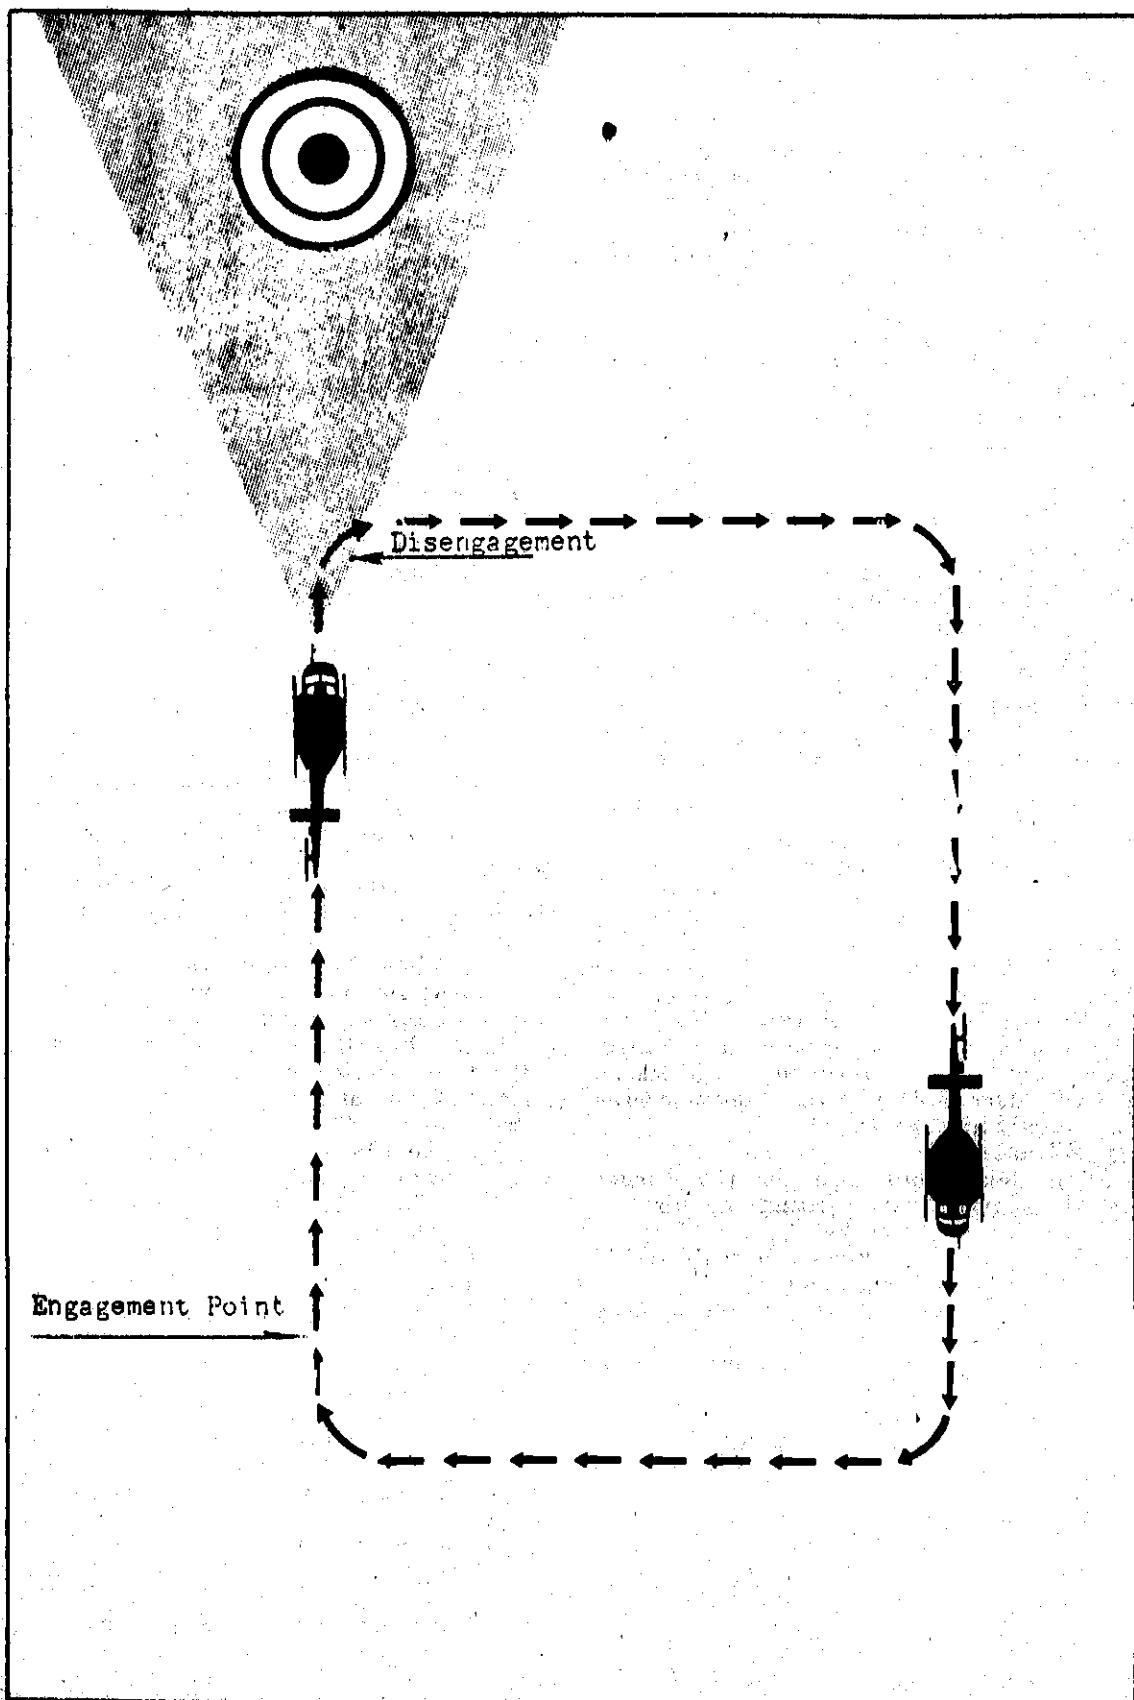

Figure 29-1. Racetrack Pattern.
c. Racetrack Pattern. The racetrack pattern (Figure 29-1) is the basic attack pattern from which the others are derived. This pattern may be used on any direct fire support mission or may be modified as the situation dictates. Integrated weapons may be used to suppress hostile fire long enough for the helicopter to break contact. Direct hits are not necessarily a requirement in suppressing hostile fire. Often the sound of the weapons being fired is sufficient to momentarily silence hostile fire. This is particularly true for the 2.75-inch folding fin aircraft rocket (FFAR) which has a significant psychological effect that is derived from the noise of firing alone:
(1) Advantages: